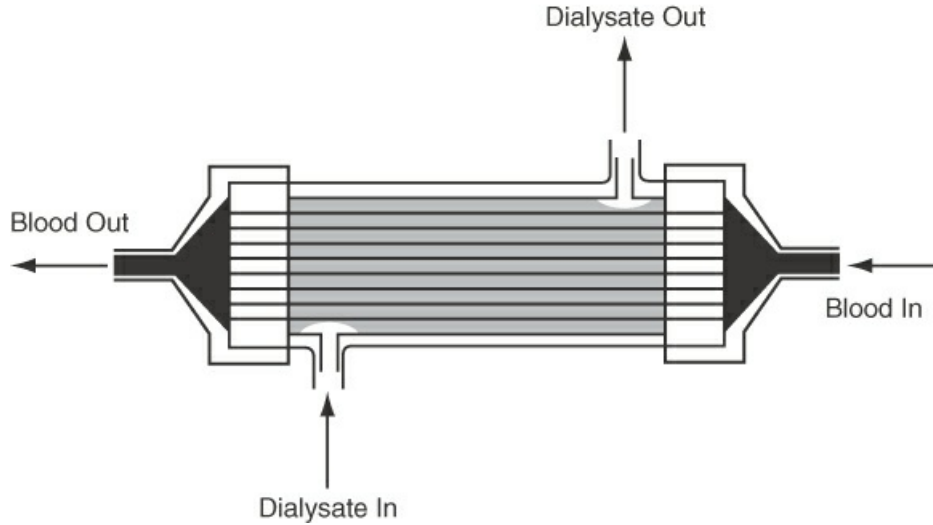

Figure P3.4.4
***3.4.4** Figure P3.4.4 is a sketch of an artificial kidney, a medical device used to remove waste metabolites from the blood in cases of kidney malfunction. The dialyzing fluid passes across a hollow membrane, and the waste products diffuse from the blood into the dialyzing fluid.